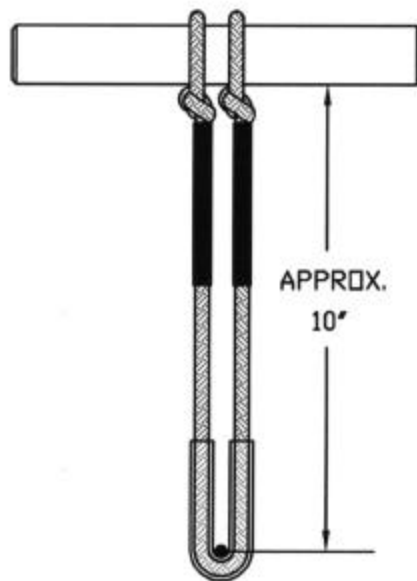

FIG. 9 - FINISHED HANDLE UNDER TENSION
10. Center the plastic tubing on the rope, and slip the loops over the dowel to complete the assembly. In use with the rope taught, the distance from the dowel to the loop on the root ball basket should measure approximately 10 inches. (See Figure 9)